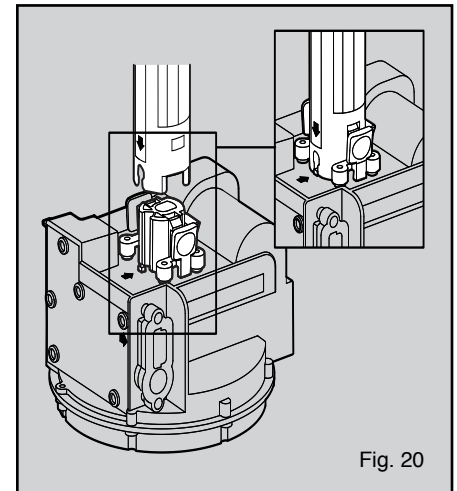

Fig. 20
21. Align the orange arrow on the motor module with the orange arrow on the support shaft. Push the motor module up until BOTH snaps lock into place (see figure 20).